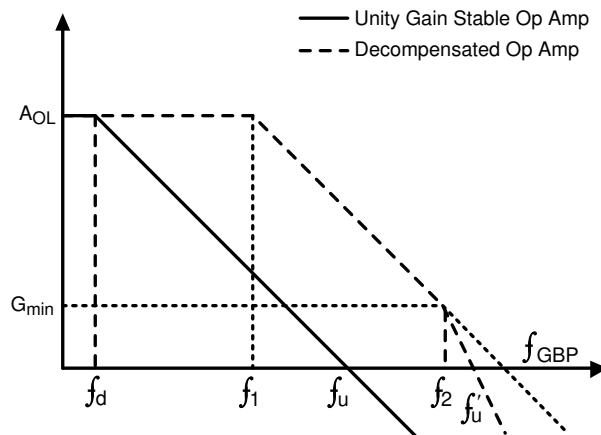

Figure 8-5. Gain vs Frequency Characteristics for a Unity-Gain Stable Op Amp and a Decompensated Op Amp
As shown in Figure 8-5, the dominant pole f_d is moved to the frequency f_1 in the case of a decompensated op amp. The solid A_{OL} plot is the open-loop gain plot of a traditional unity-gain stable op amp. The change in internal compensation in a decompensated amp such as the OPAX607-Q1, increase the bandwidth for the same amount of power. That is, the decompensated op amp has an increased bandwidth to power ratio when compared to a unity-gain stable op amp of equivalent architecture. Besides the advantages in the above mentioned parameters, an increased slew rate and a better distortion (HD2 and HD3) value is achieved because of the higher available loop-gain, compared to its unity-gain counterpart. The most important factor to consider is ensuring that the op amp is in a noise gain (NG) greater than G_{min} . A value of NG lower than G_{min} results in instability, as shown in Figure 8-5, because the $1/\beta$ curve intersects the A_{OL} curve at 40 dB/decade. This method of analyzing stability is called the *rate of closure method*. See the precision lab training videos from TI for a better understanding on device stability and for different techniques of ensuring stability.